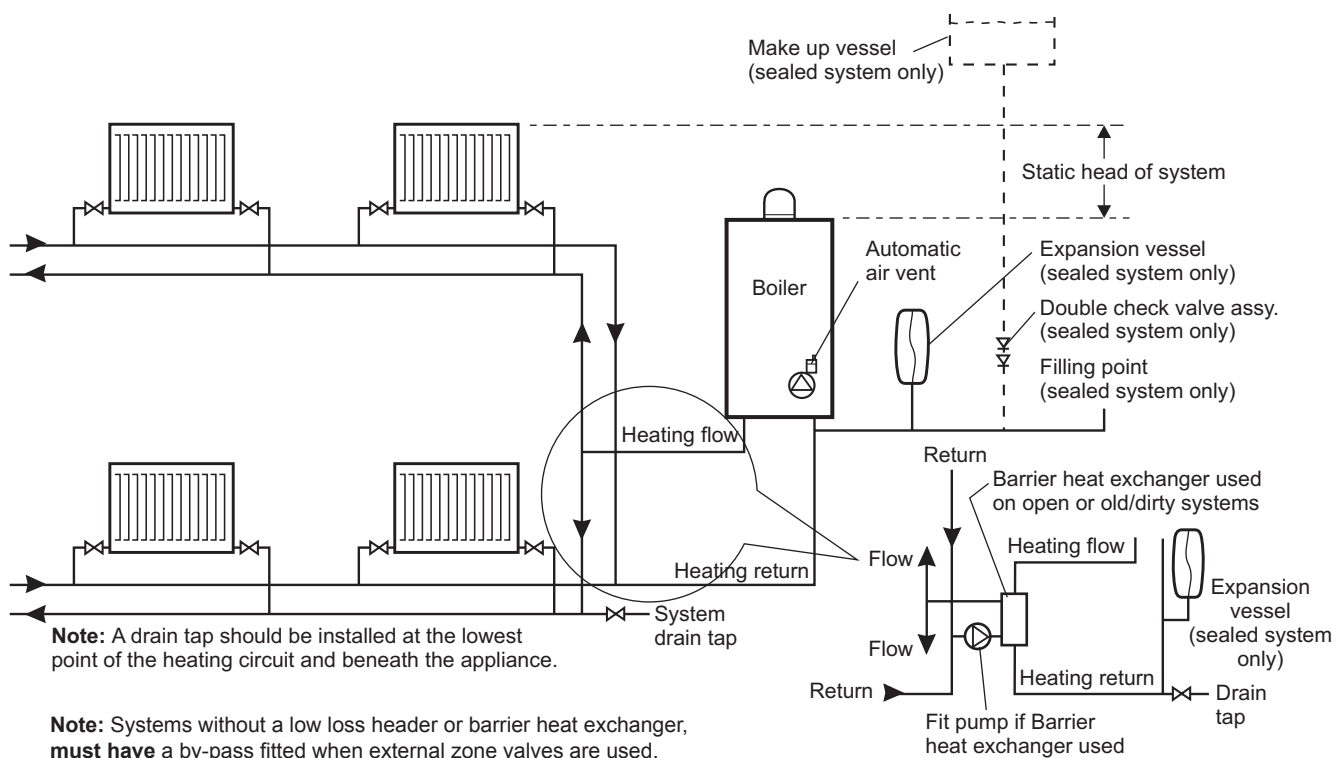
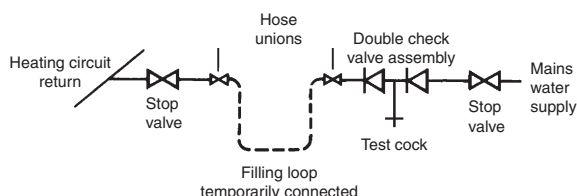
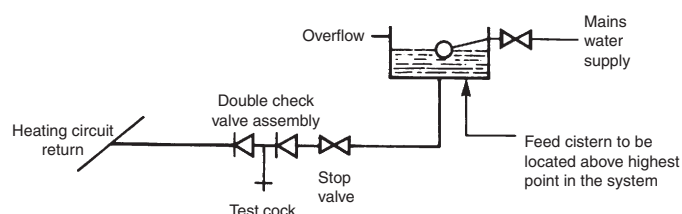

Fig. 3.3
Fig. 3.4
Fig. 3.5
3.8 CENTRAL HEATING SYSTEM - Fig. 3.3
However, if the boiler is to be used with an open central heating system refer to Fig. 3.3 and use a barrier heat exchanger (i.e. separates the boiler primary circuit from the open heating circuit). This will also ensure the boiler heat exchanger is protected from an old/dirty system.
Sealed system volume - An expansion vessel **is not** incorporated into the boiler. An expansion vessel **must be** fitted in the position shown in Fig. 3.3. To check correct operation of the expansion vessel the system pressure should not be more than 3.5 bar when the system is at maximum operating temperature (for further guidance refer to BS 7074:1). For example an 8 litre expansion vessel is suitable for a sealed system of 80 litres.
3.9 FILLING THE SEALED CENTRAL HEATING SYSTEM - Figs. 3.4, 3.6
The system design pressure (cold) should be set to 1.0 bar. This pressure is equivalent to a static head (see Fig. 3.3) of 10.2 metres of water.
Provision should be made to replace water lost from the system. This can be by manual or automatic means, as shown in Figs. 3.4 and 3.5. The position for connecting an automatic make-up vessel is indicated in Fig. 3.3. A double check valve assembly must be used, as shown in Fig. 3.5.
Filling of the system must be carried out in a manner approved by the local Water Undertaking. Where allowed, the system may be filled via a temporary connection as shown in Fig. 3.4. After filling, always disconnect the flexible hose of the filling loop.
It is essential that the central heating system is thoroughly cleaned and flushed before fitting an Alpha Pro Tec Plus boiler. Failure to do so will invalidate the warranty. If this is difficult because the system is old/dirty refer to Section 3.8, Fig. 3.3 gives consideration to using a barrier heat exchanger.